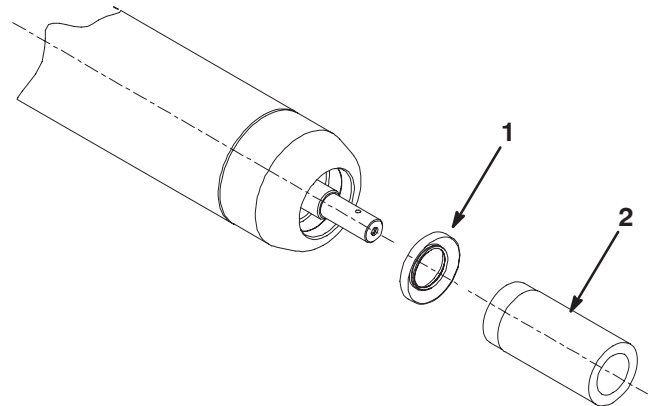
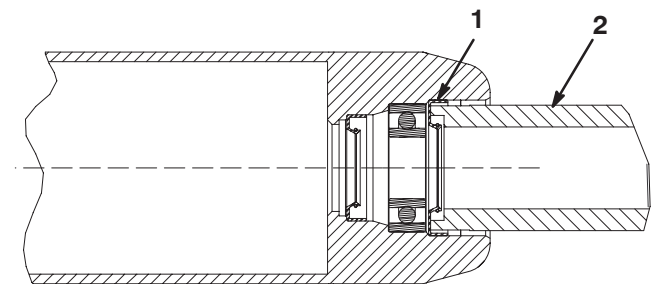

Figure 11
Figure 12
15. On the same end of the roller tube, use the Bearing/Outer Seal Tool to install (2) outer seals as follows:
- Install the first seal gently into the tool (Fig. 11), and lightly tap the seal into the roller tube until it is seated (Fig. 12).
Note: Make sure the seal is installed as shown in figures 11 & 12. The garter spring is to be facing toward the outside of the roller.